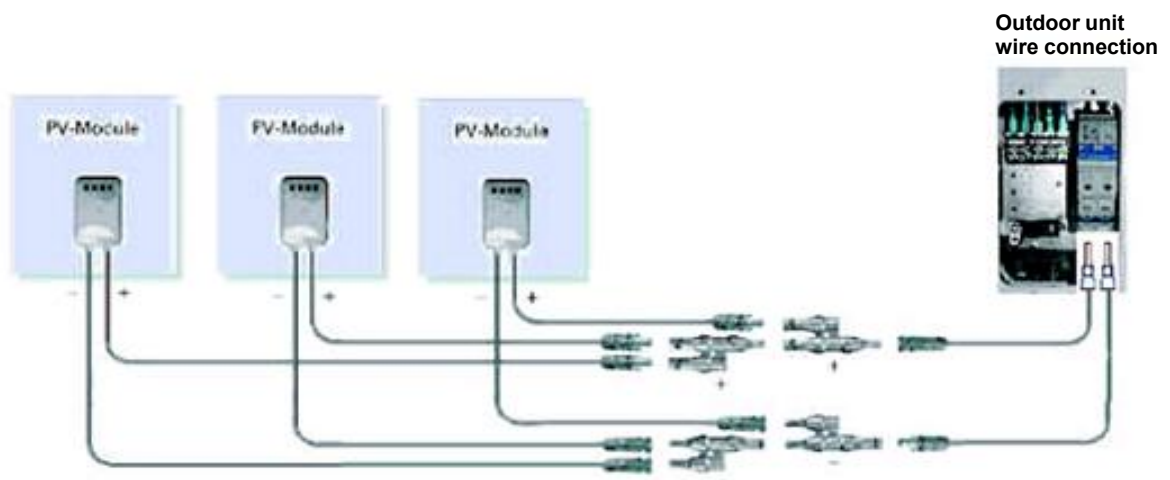

Fig.52a
- Connection method A: The distance between the modules is close, no need to use the extension cord (3 meters), see Fig.52a.